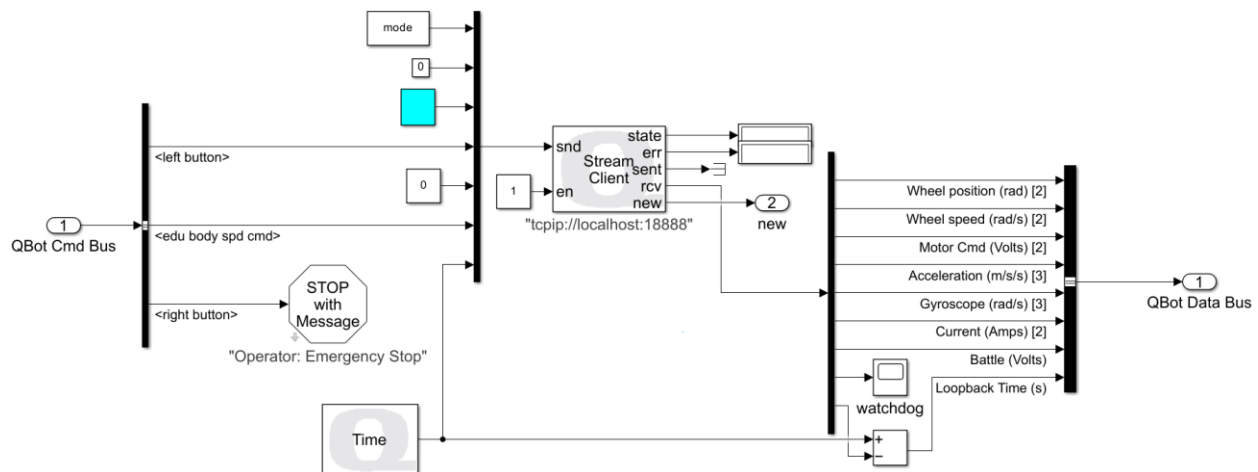

Figure 5. QBot Hardware Subsystem
- Return to the main model and double click on **QBot Hardware** block to open the subsystem as shown in Figure 5. This subsystem communicates with the driver on the QBot via a **Stream Client** block. Speed commands from the joystick and left and right